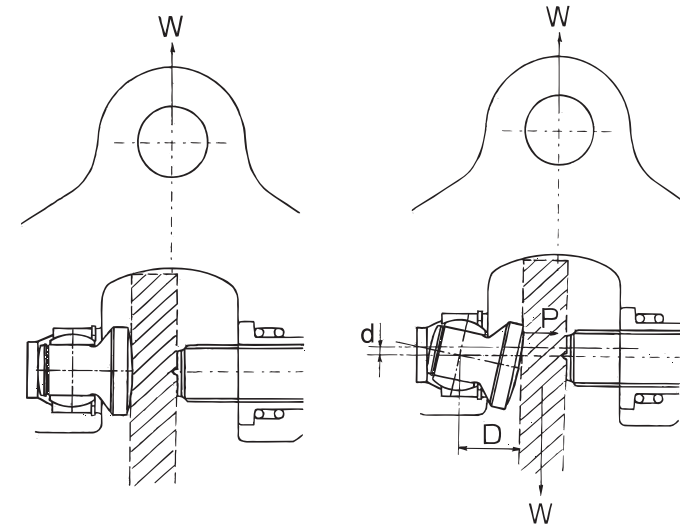

Fig. 1
1. When a steel plate is lifted or pulled in the direction of the line of force, as shown in Fig. 1, the swivel jaw is rotated by the friction due to the initial load, and by the load (W) itself, to produce a clamping force (P). Normally, this force will be about 2 - 3 times the weight of the load being lifted. (SBB, SBb, and SBC)
4. When a steel plate is lifted or pulled, as shown in Fig. 4, a clamping force of $P = L/R \times W \times k$ [k : Mechanical efficiency (0.1~0.5)] plus the clamping force due to the rotation of the swivel jaw are both applied. Therefore, the steel plate is securely clamped. When a steel plate is lifted or pulled, as shown in Figs. 1, 2 and 4, and the direction of the load is changed to the lateral, only the L/R ratio changes.